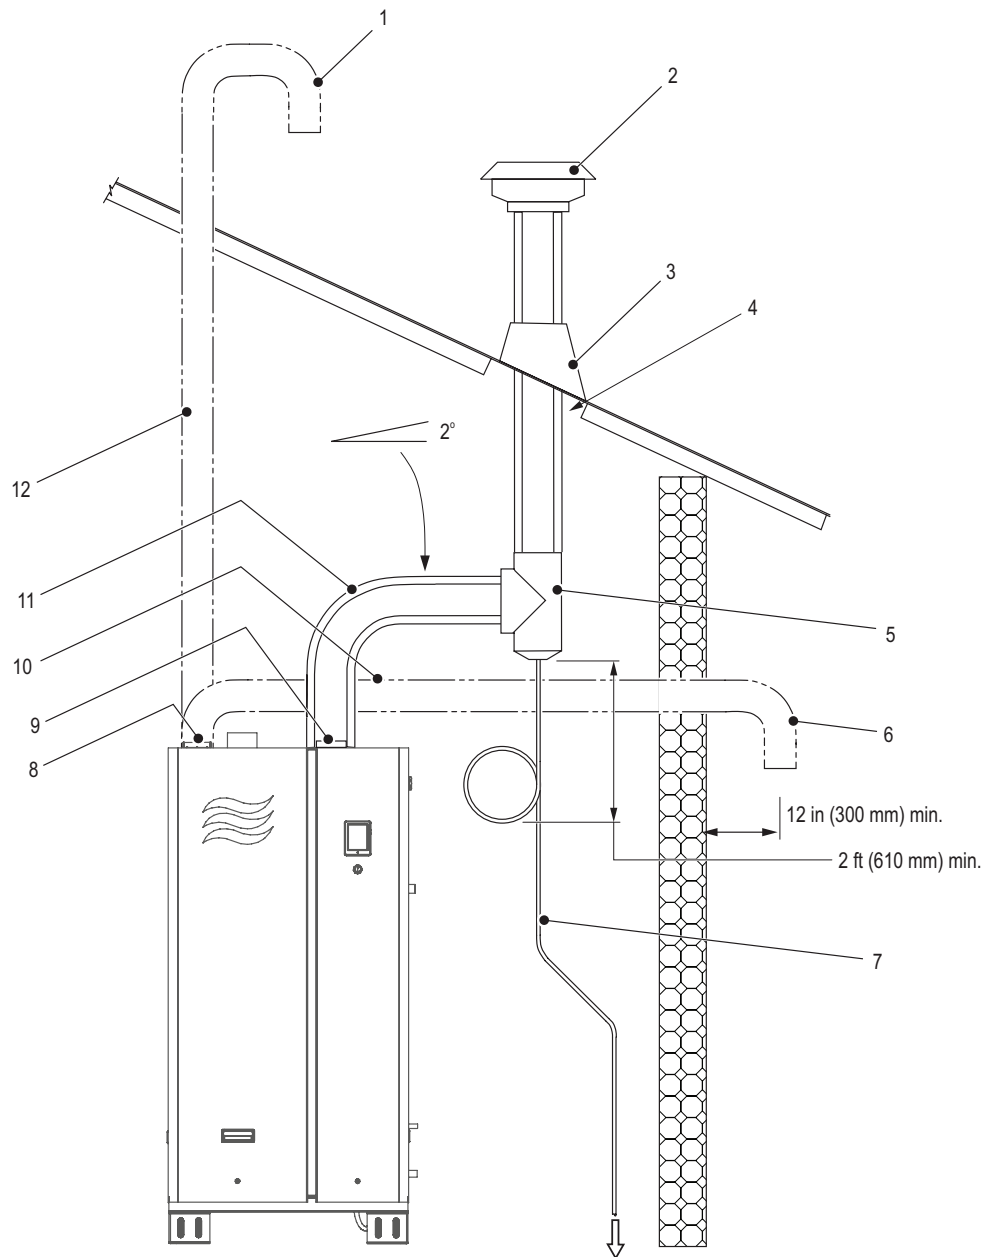
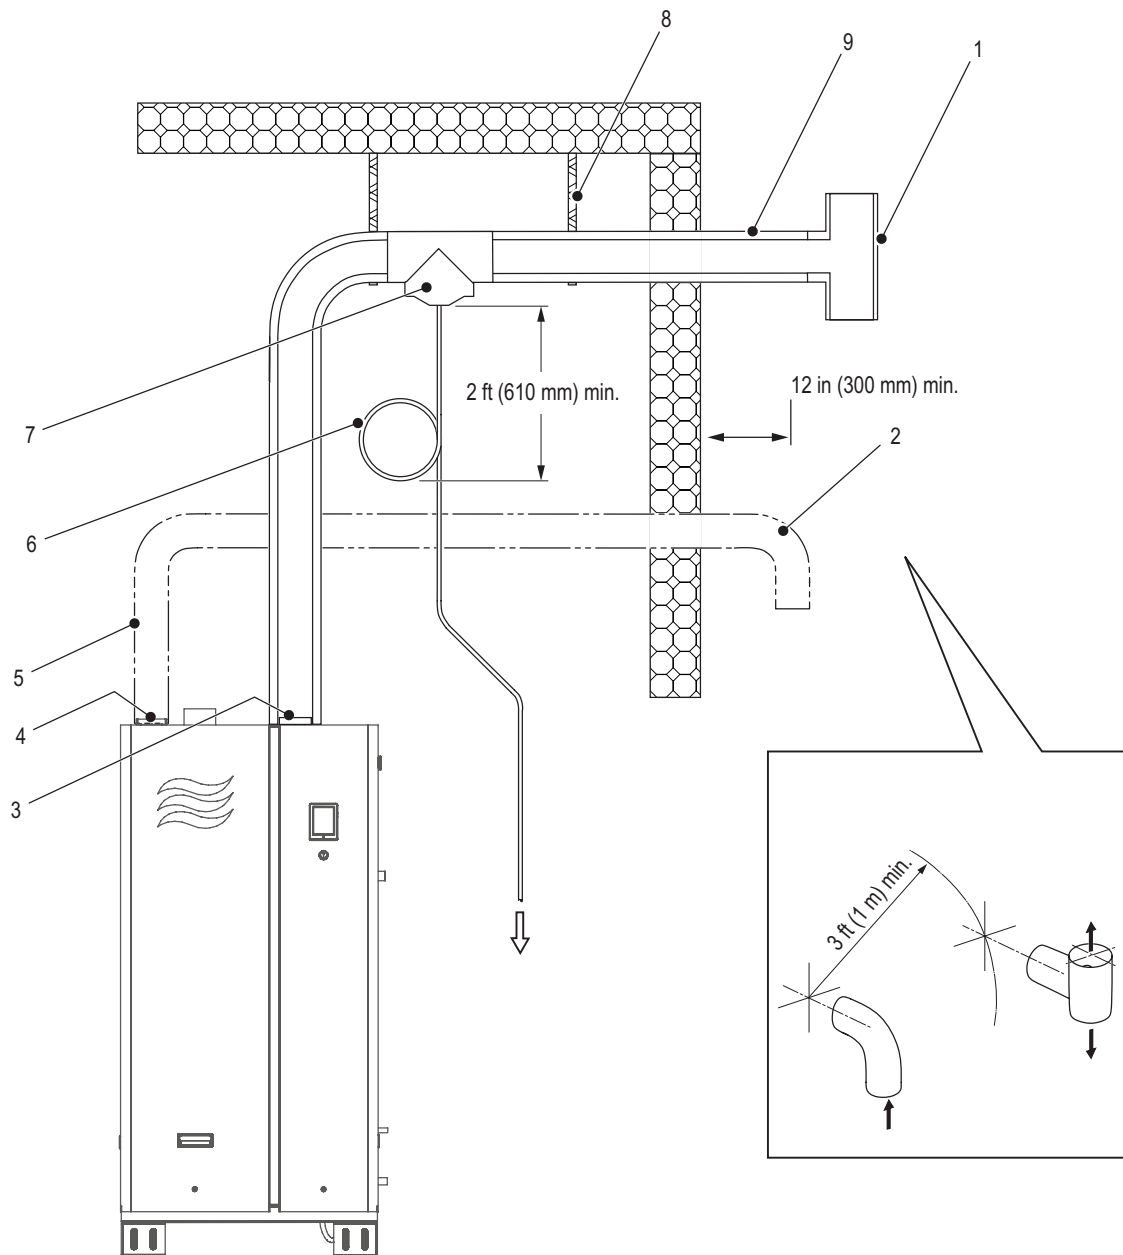

Figure 20: Vertical Venting (with Optional Sealed Combustion Hookup) – Category IV
Figure 21: Horizontal Venting (with Optional Sealed Combustion Hookup) – Category IV
Figure 20 on page 53 and Figure 21 on page 54 show the general types of venting arrangements. These are guidelines only. For the specific venting arrangements refer to “Exhaust Vent Installation for CS/NX Model” on page 55. Adhere to all national or local codes.
- Category IV appliances can be vented vertically or horizontally, and can terminate on a rooftop or sidewall provided they meet the requirements of the National Fuel Gas Code (ANSI Z223.1), or CAN/CGA B149 Installation Codes. Refer to Figure 20 on page 53 and Figure 21 on page 54. Adhere to vent manufacturer's instructions.
- During normal operation, a Category IV appliance will create exhaust condensate. Install condensate drain lines according to vent manufacturer's instructions every 15 ft (4.5 m) on all horizontal runs, and at every horizontal-to-vertical transition. Install a full "Tee" with condensate port and trap at all horizontal-to-vertical transitions. The condensate trap must be minimum 12 in (300 mm) in diameter. Refer to Figure 20 on page 53 or Figure 21 on page 54.